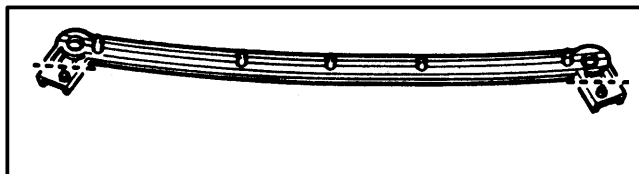

FIGURE 15. SEAL MODIFICATION FOR THE FRONT OF THE OIL SUMP, GM 6-250
**GM 6-250.** Cut the tabs from the oil seal for the front of the oil sump as shown in FIGURE 15. Apply a thin coat of sealant to both side of the gasket and put it in position. Apply a 3 mm ( $\frac{1}{8}$  in) bead of RTV sealant at the joint between the gaskets at the edge of the engine block. Install the timing gear cover. Install the screws for the oil sump and the screws for the timing gear cover and tighten the screws with your fingers. Make sure the oil seal is correctly aligned. Tighten the screws to 9 N.m (80 lbf in).